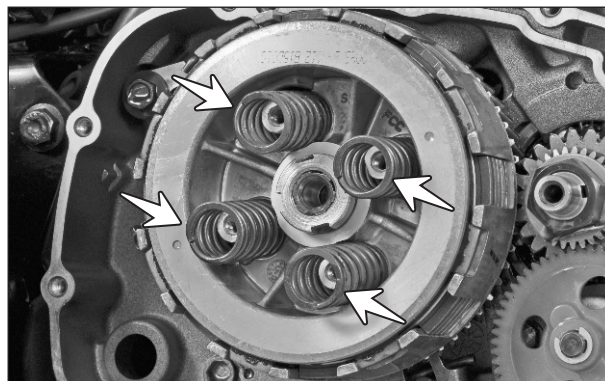

Fig. 3.10
- Take out the spring clutch (4 nos.). (Fig. 3.10)